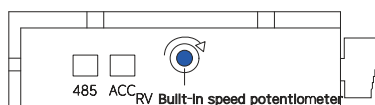

Figure1
- Built-in potentiometer RV speed control: Rotate the built-in speed control potentiometer RV clockwise, and the motor starts to run. Turn it counterclockwise to the limit position, at this time, the built-in potentiometer RV will be closed, and the motor will stop running---Figure 1.